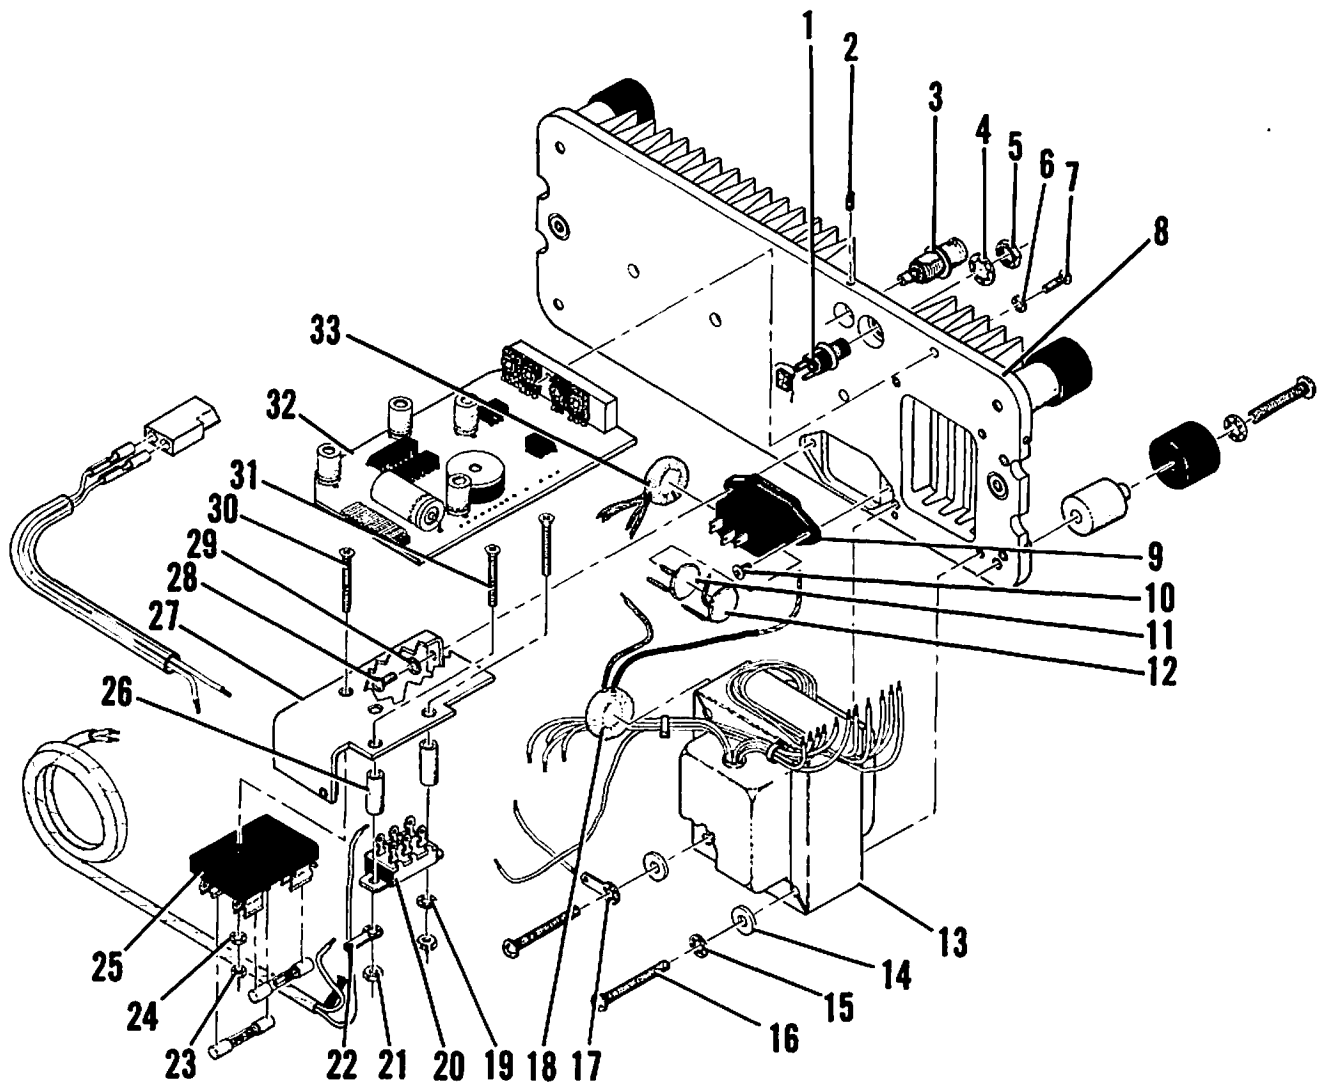

Figure 6-7 Rear Panel Assembly
5. Remove screw (24) and lock washer (23) attaching mounting bracket (Figure 6-7, Item 27) to chassis (33).
6. Remove eight screws (17) attaching Rear Panel (48) to chassis (33).
7. Remove two thumbnuts (11) securing fuse protector (7) and remove fuse protector.
8. Withdraw Rear Panel Assembly (48) from chassis (33).
9. Disconnect wire harness connector from Power Supply PC Board (5).
10. Unsolder black wire from fuseholder (Figure 6-7, Item 25).
11. Remove nut (Figure 6-7, Item 21) and terminal lug (Figure 6-7, Item 22) attaching white wire to voltage select switch (Figure 6-7, Item 20).
- B. Disassembly (Figure 6-7)
1. Remove Transformer (13).
- a. Remove screw (7) and lock washer (6) attaching Power Supply PC Board (32) to Rear Panel (8).
- b. Tag and unsolder all wires from transformer (13) to Power Supply PC Board (32).
- c. Tag and unsolder three wires from transformer (13) to voltage select switch (20).
- d. Unsolder wire from External DC Power jack (1) to torroid coil (18).
- e. Remove four screws (16), three lock washers (15), four flat washers (14) and grounding lug (17) mounting transformer (13) on rear panel (8).
- a. Tag and unsolder all wires from voltage select switch (20).
- b. Tag and unsolder all wires and capacitor lead from fuseholder (25).
- c. Remove two nuts (21), lock washer (19), terminal lug (22), if installed, and screws (30) attaching fuseholder (25) to mounting bracket (27).